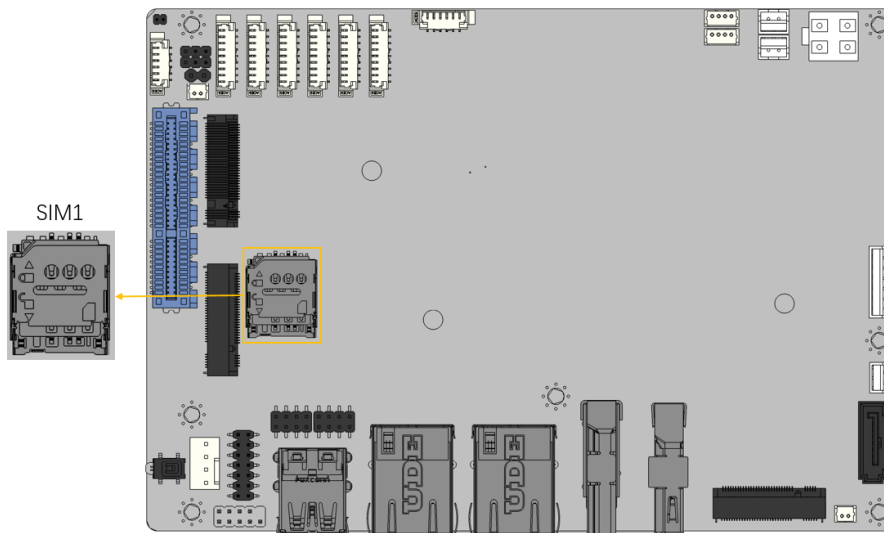

Figure 3-27: SIM Card Slot Location
- CN Location:** See **Figure 3-27**